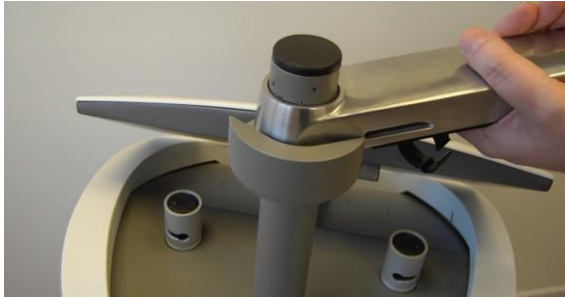

Figure 3-6. Inserting the Articulated arm onto its Pivot
2. Insert the articulated arm's base onto its pivot, as shown in Figure 3-6.